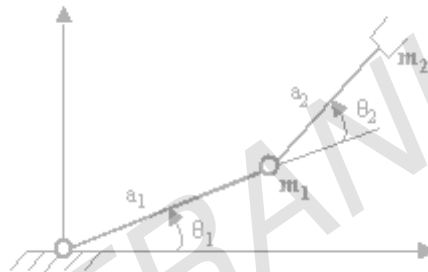

Figure 1
1. Determine the dynamic equations for the two-link manipulator shown in Figure 1, when each link is modeled as a rectangular solid of uniform density. Each link has dimensions  $a_i$ ,  $b_i$  and  $h_i$  and total mass  $m_i$ . [16]